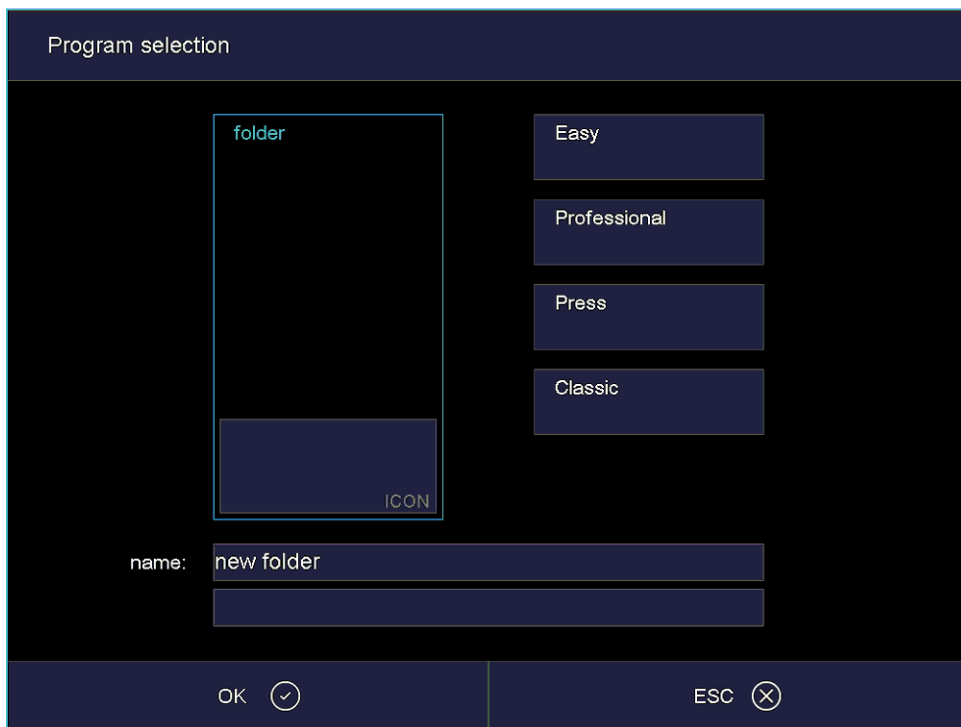

Fig. 5-6 Window "Program selection": Folder
- The "Program selection" window opens. See Fig. 5-6.